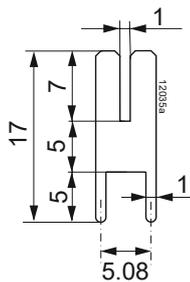

Fig. 18
- Solder-tags for direct mounting of the regulator to a PCB board (Delivery content: 10 pcs); see fig. 18.